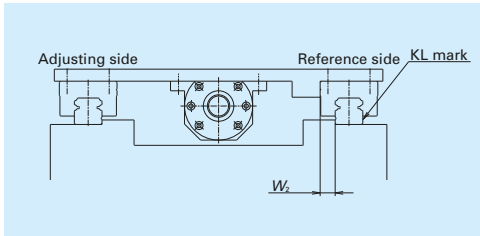
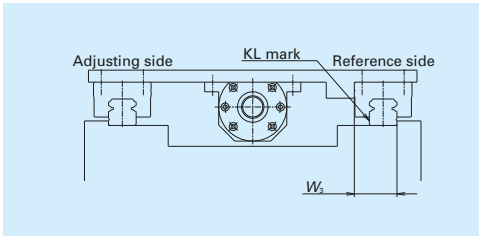

Fig. 4.3 Mounting width W_2
Fig. 4.4 Mounting width W_3
- Mounting width differs depending on the arrangement of the datum surfaces of the rail and slide on the reference linear guide (indicated as KL on the rail). (**Fig. 4.3** and **Fig. 4.4**)